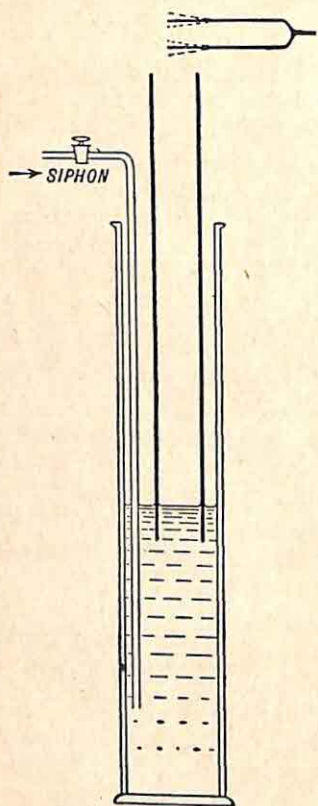

FIG. 82.
*Expt. K.*—A glass tube, diameter 2–3 cm. and length about 40 cm. is mounted in a tall glass cylinder partly filled with water (Fig. 82).